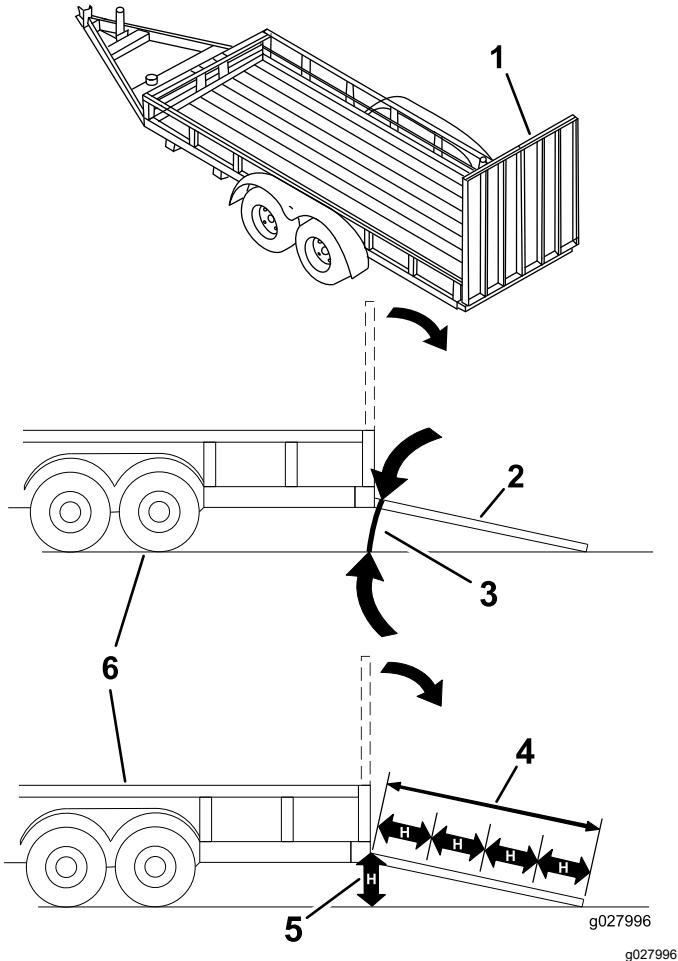

Figure 35
**Loading a machine onto a trailer or truck increases the possibility of tip-over and could cause serious injury or death (Figure 35).**
3. Lower the ramp, ensuring that the angle between the ramp and the ground does not exceed 15 degrees (Figure 35).
1. Lower the ramp, ensuring that the angle between the ramp and the ground does not exceed 15 degrees (Figure 35).